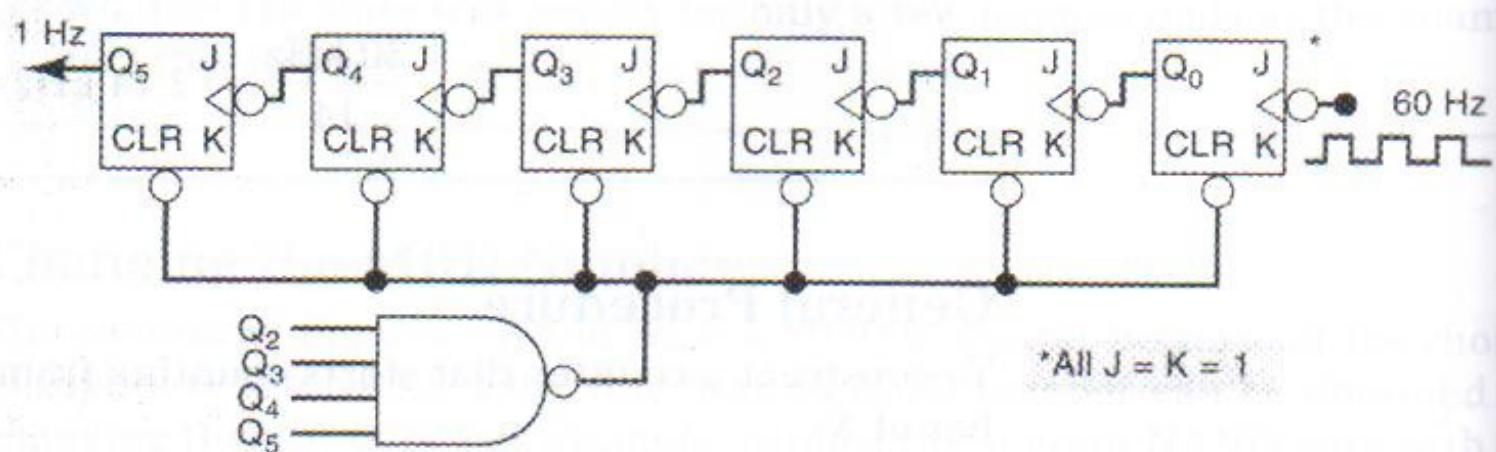

FIGURE 7-7 MOD-60 counter.
- 7-7. Change the inputs to the NAND gate of Figure 7-7 so that the counter divides the frequency by 50. Repeat for a frequency division of 100.